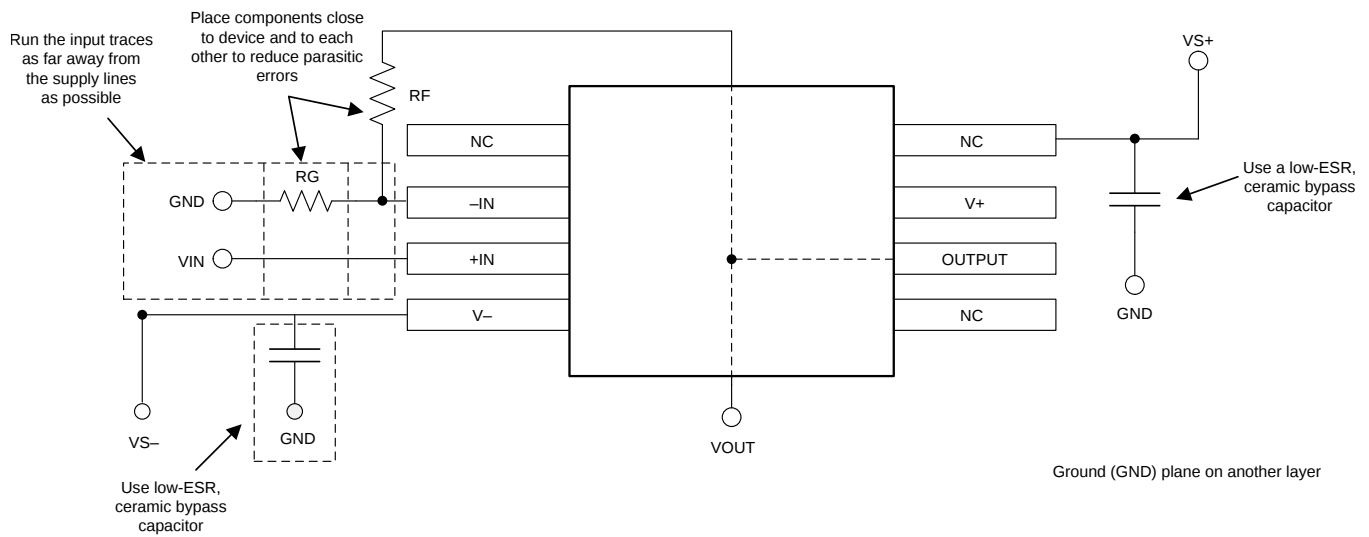

图 44. Operational Amplifier Board Layout for Noninverting Configuration
- Place the external components as close to the device as possible. Keeping RF and RG close to the inverting input minimizes parasitic capacitance, as shown in Figure 44.